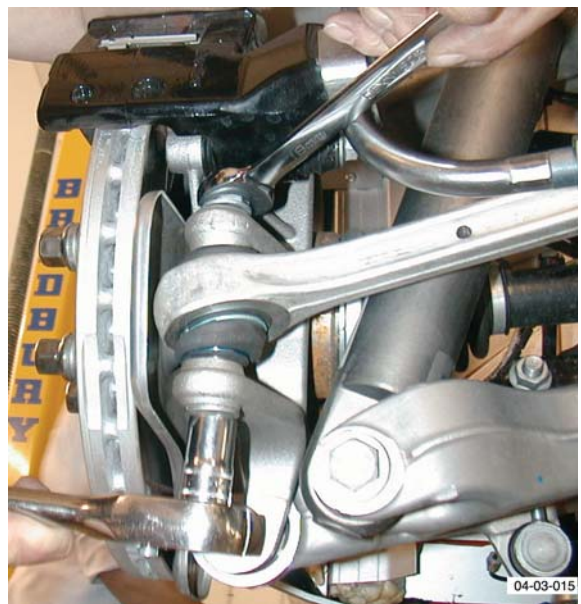

Fig. 5
11. Remove nuts and bolts both sides from toe control arms (see Fig. 5).